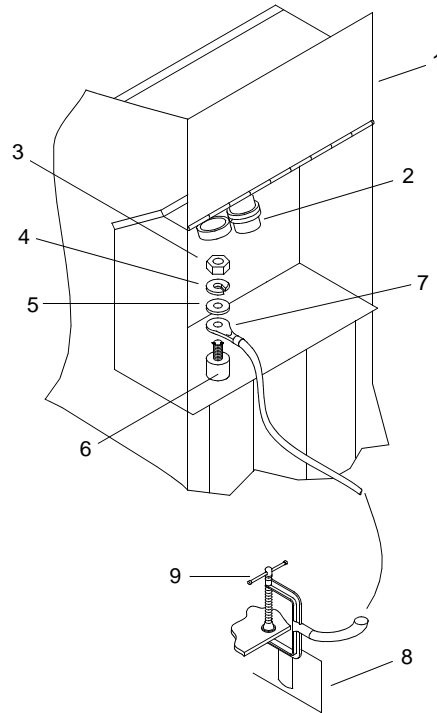

Figure 27. Ground Cable Installation
1. Open hinged cover (figure 27, item 1) over shore tie connector fitting (figure 27, item 2) and latch in open position.
2. Remove nut (figure 27, item 3), lockwasher (figure 27, item 4) and flat washer (figure 27, item 5) from ground stud (figure 27, item 6).
3. Using wire brush, clean shoulder of ground stud (figure 27, item 6) so grounding surface has a smooth, bright finish.
4. Apply a thin coating of antiseize compound to ground stud (figure 27, item 6) and ground cable terminal (figure 27, item 7).
5. Install ground cable terminal (figure 27, item 7) on ground stud (figure 27, item 6).
6. Install flat washer (figure 27, item 5), new lockwasher (figure 27, item 4) and nut (figure 27, item 3) on ground stud (figure 27, item 6). Tighten nut (figure 27, item 3).
7. Using wire brush, remove paint from ISO fitting (figure 27, item 8) so grounding surface has a smooth, bright finish.
8. Using wire brush, clean ground cable C-clamp (figure 27, item 9) grounding surface.
9. Apply a thin coating of antiseize compound to ISO fitting (figure 27, item 8) grounding surface.
10. Attach ground cable C-clamp (figure 27, item 9) to ISO fitting (figure 27, item 8). Tighten C-clamp (figure 27, item 9).